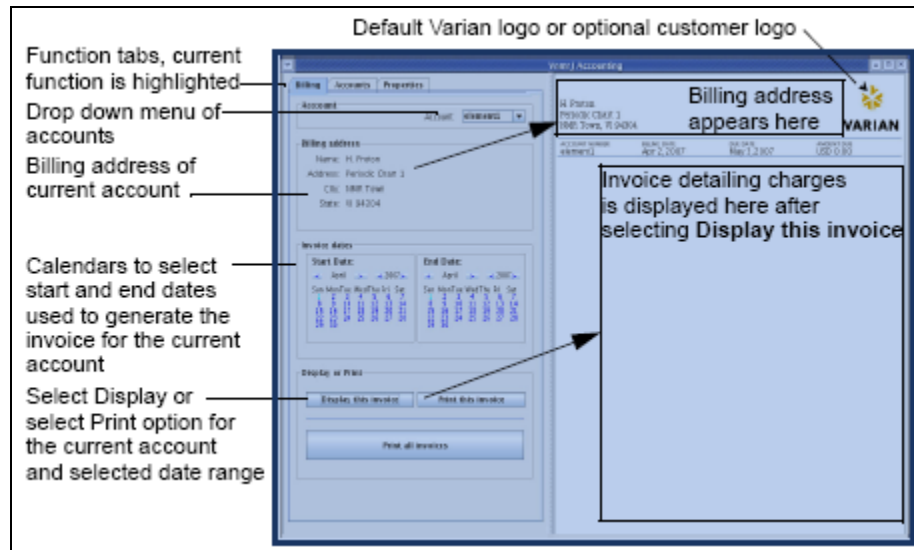

Figure 8 VnmrJ Accounting Billing Window
Click the **Billing** tab to open the Billing window, see Figure 8.
- a. Click **Display** this invoice button to display the invoice on the right side of the Billing tab, see Figure 8.